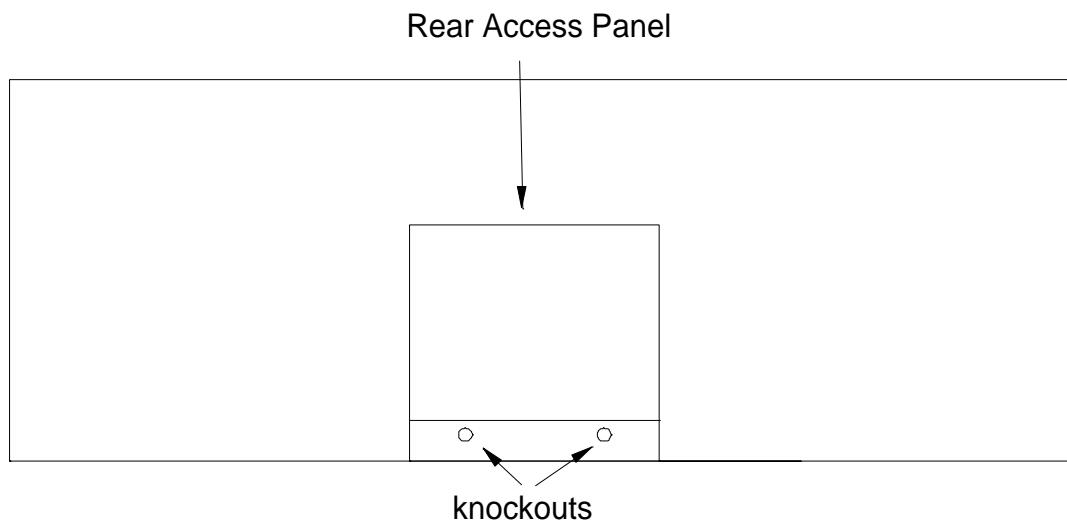

Figure 6 Upper Section Rear Access Panel
1. Remove the hex head screws which hold the upper section rear access panel in place (Figure 6).